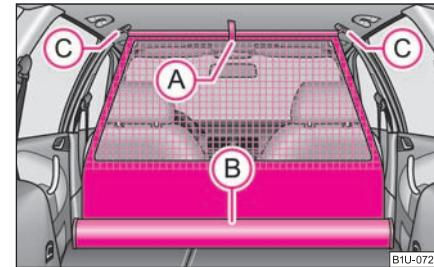

Fig. 77 Pull out the net partition ►
- Pull the net partition net at the plate **(A)** out of the housing **(B)** ⇒ page 68, fig. 77.